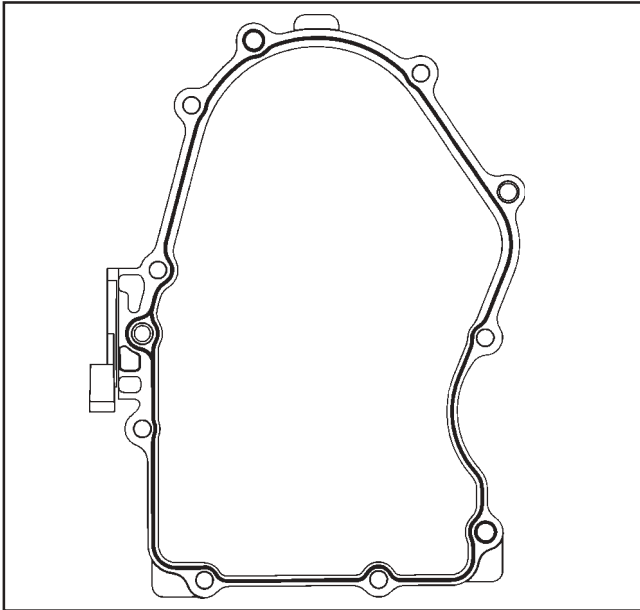

Figure 11-19. Closure Plate Sealant Pattern.
3. Apply a 1.5 mm (1/16 in.) bead of sealant to the sealing surface of the closure plate. See Figure 11-19 for sealant pattern.